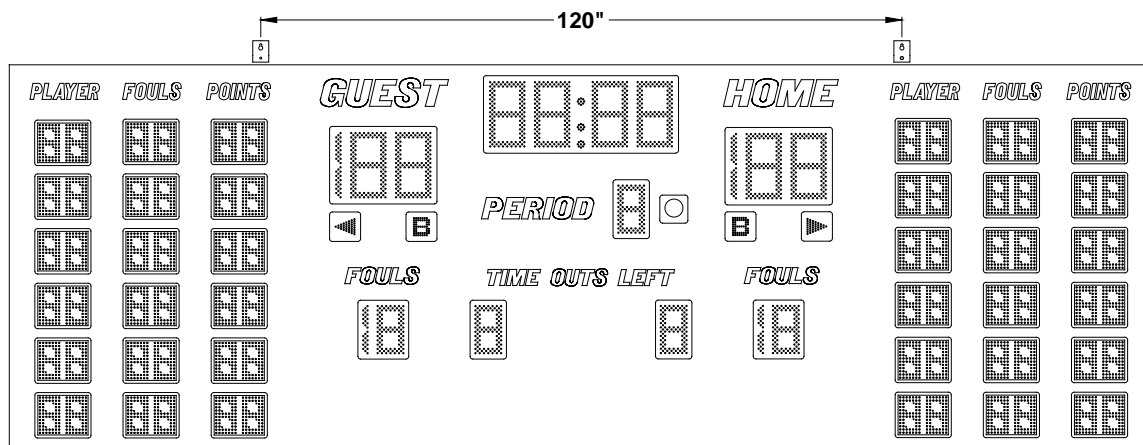

Figure 1 Model 2556 Mounting Points
3. Insert lag bolts or other suitable fasteners through the hanger brackets and fasten the scoreboard to the wall. Figure 1 shows the mounting point locations for model 2556.